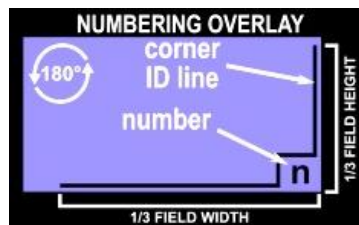
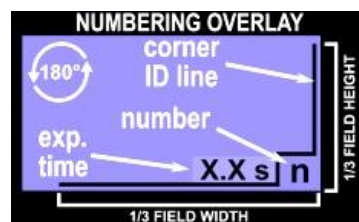

Figure 40 - Step & Repeat mode with "Number exposures" option
Figure 41 - "Add exposure time on overlay" option
- **"Number exposures..."**, **"...and add exp. time"** options. Those options respectively add on each design an overlay on their bottom right corner indicating their number order (Figure 40) and their exposure time in s (Figure 41).